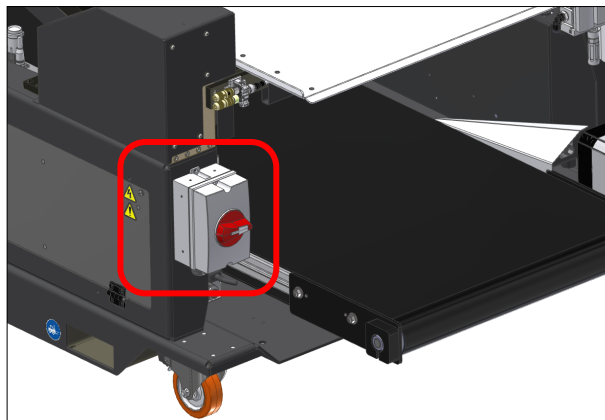

Figure 2. Main Power Switch.
2. Turn Power Switch to OFF. **Figure 2.**